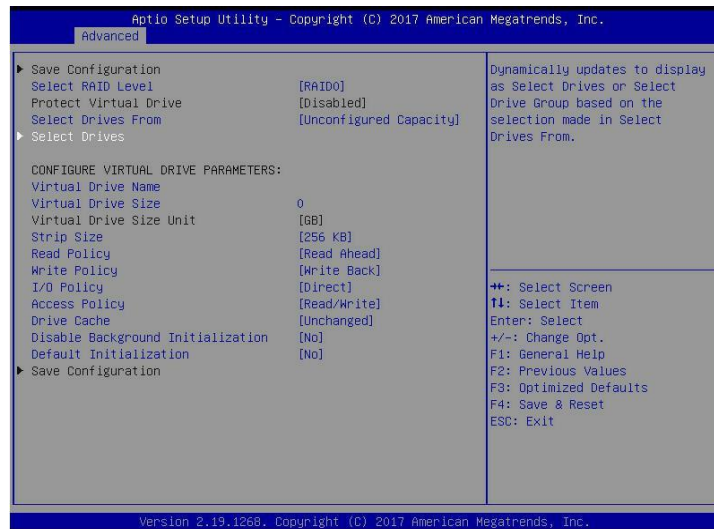

Figure 6-35
5. Enter the interface shown in Figure 6-35, select Select Drives, and press Enter.
- Figure 6-35 Select Select Drives